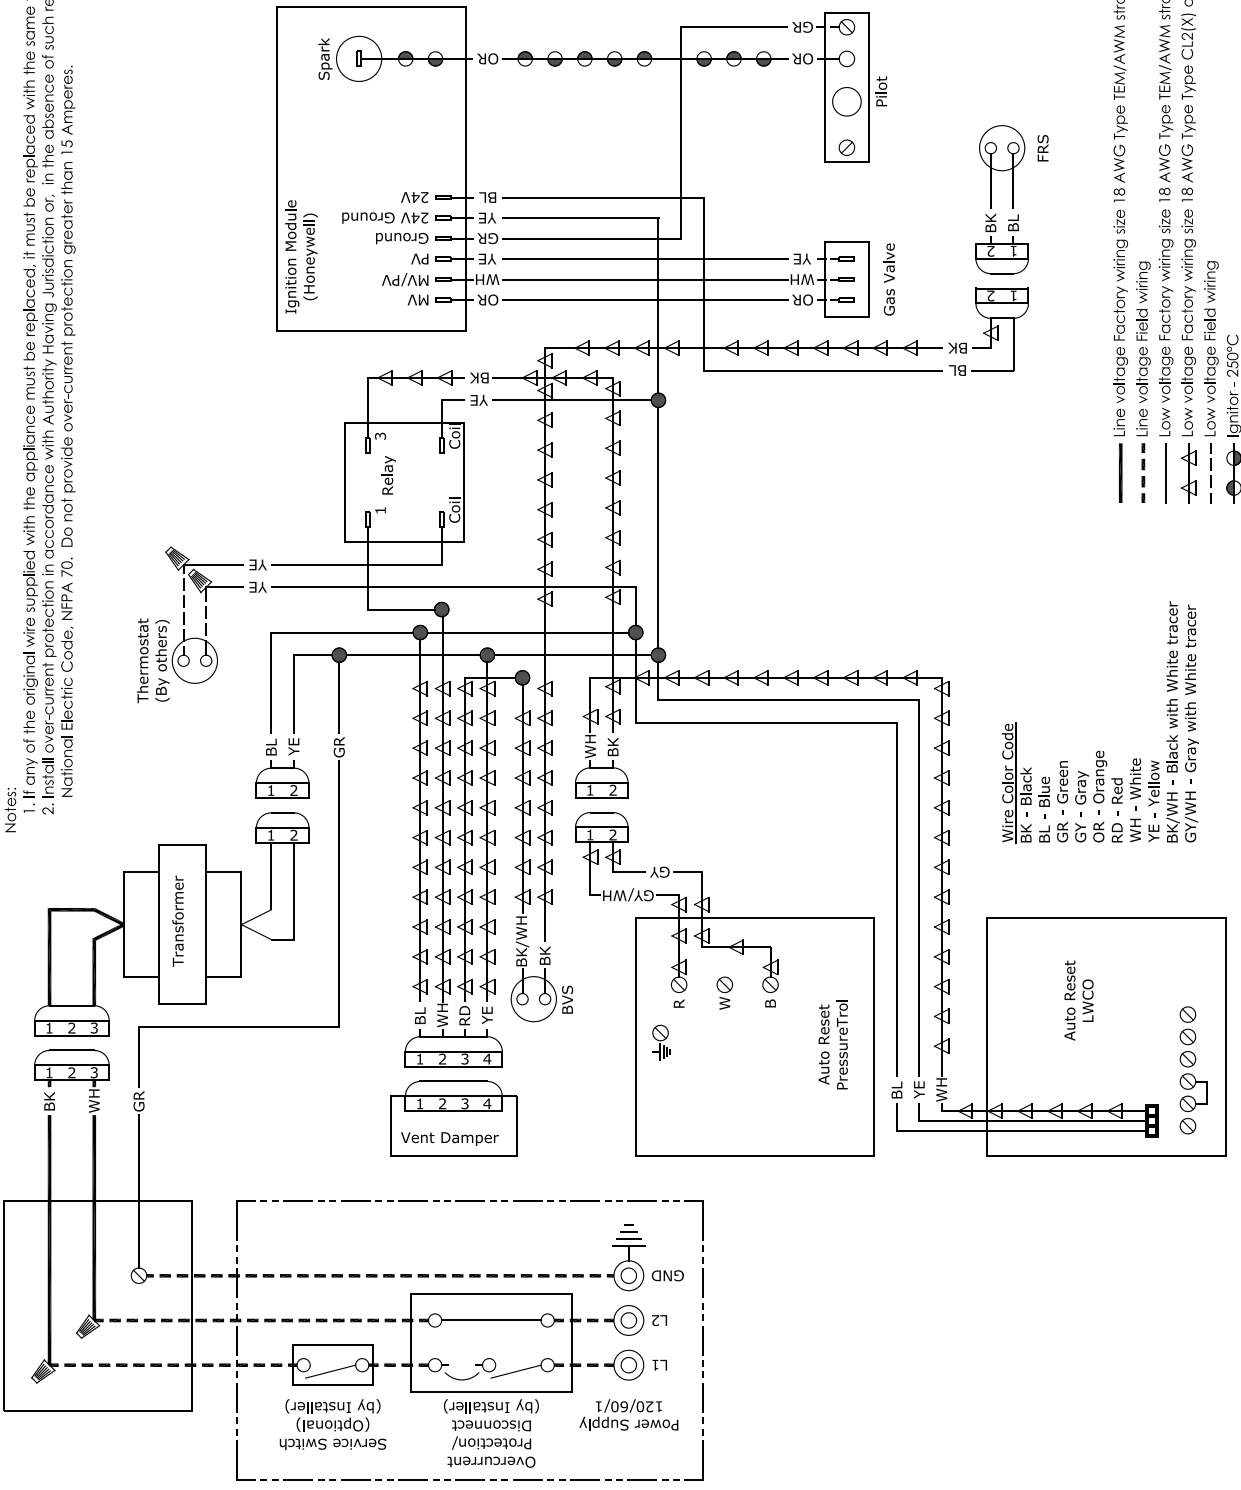

Figure 9-1: Wiring Diagram 49-075S through 49-299S
3. Wire boiler. Boiler is rated for 120 VAC, 60 HZ, less than 12 A. A separate electrical circuit must be run from main electrical service with an over-current device/disconnect in the circuit. A service switch is recommended and may be required by some local jurisdictions. Connect to black and white wires and green ground screw. See Figures 9-1, 9-3, and 9-5.